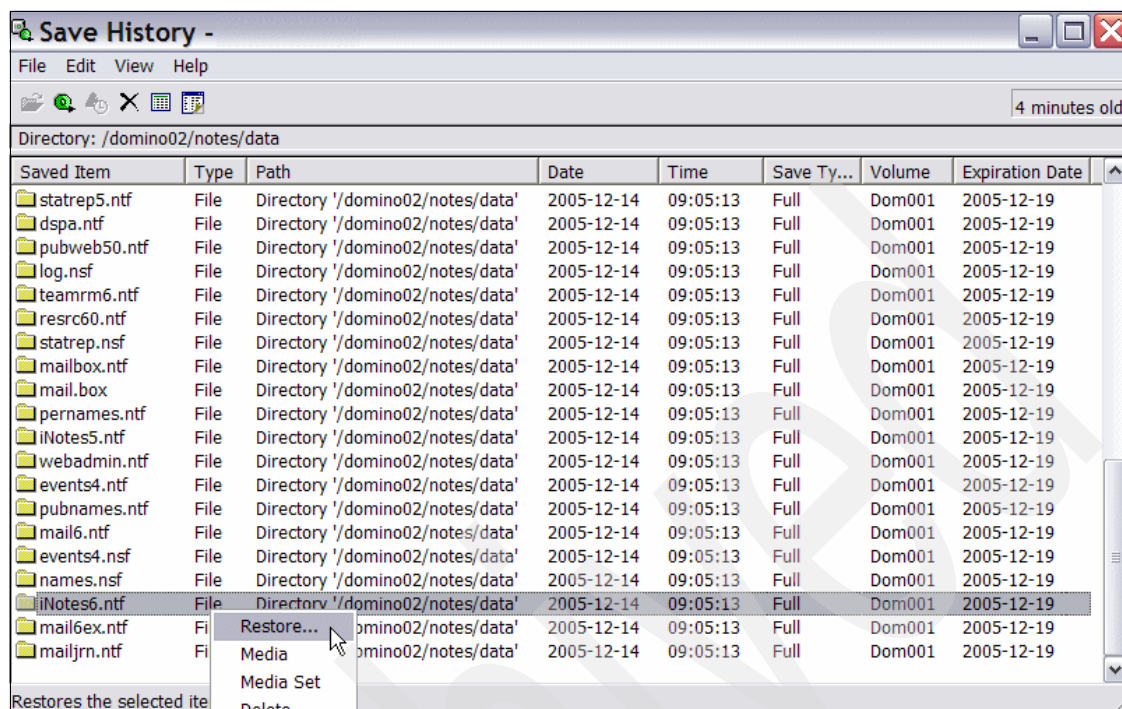

Figure 5-86 Restore Domino data with BRMS, Save History - select object to restore
- This brings up all 48 objects that were saved in that portion of the save, as shown in Figure 5-86 on page 266.